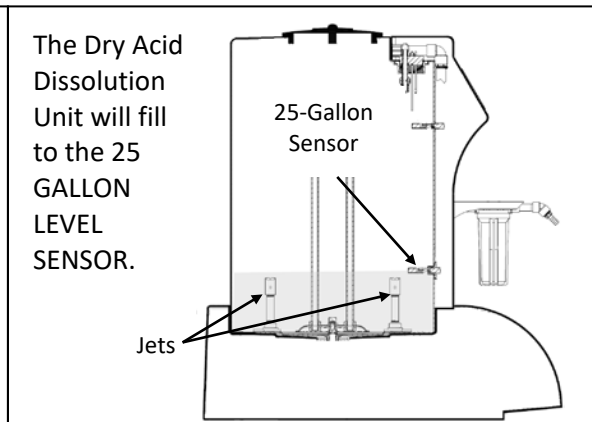

Figure 14
3. Once the 25-Gallon Sensor is reached, the control panel will automatically step to the first RECIRCULATE Operation (figure 14). With your safety glasses on, lift the Access lid and check for correct spray ball operation. See figure 4, page 12, for the illustration of correct or incorrect spray ball operation.